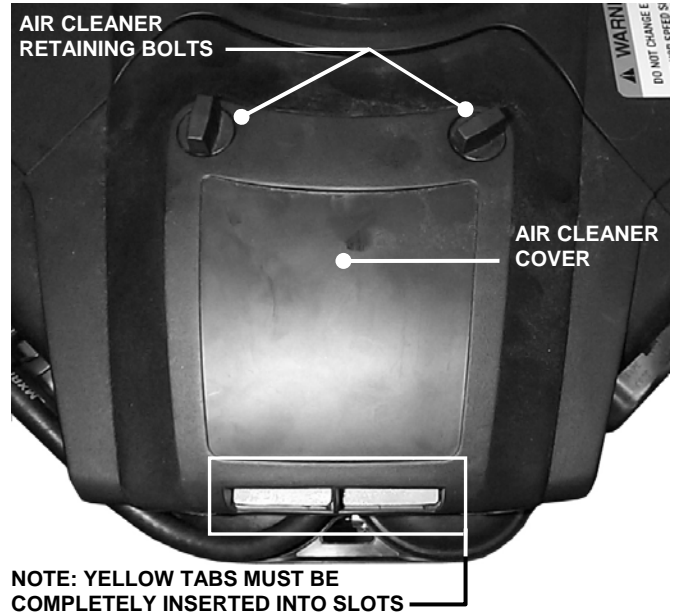

FIGURE 3.4
- a. **20 Hp Engines:** Change air filter. Remove bolts that secure air cleaner cover. See Figure 3.4.